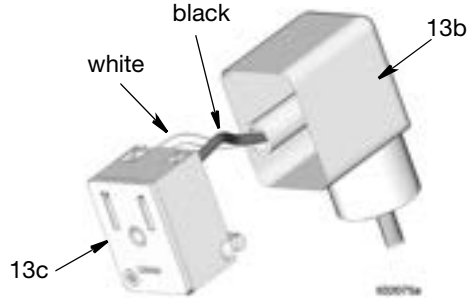

FIG. 9
- Insert the other end of the connector cable into the mini DIN solenoid connector. Connect the line (black) wire to the terminal labeled 1, the neutral (white) wire to the terminal labeled 2 (FIG. 9).
- Replace the retainer plate (13c) in the DIN connector (13b) (FIG. 9).